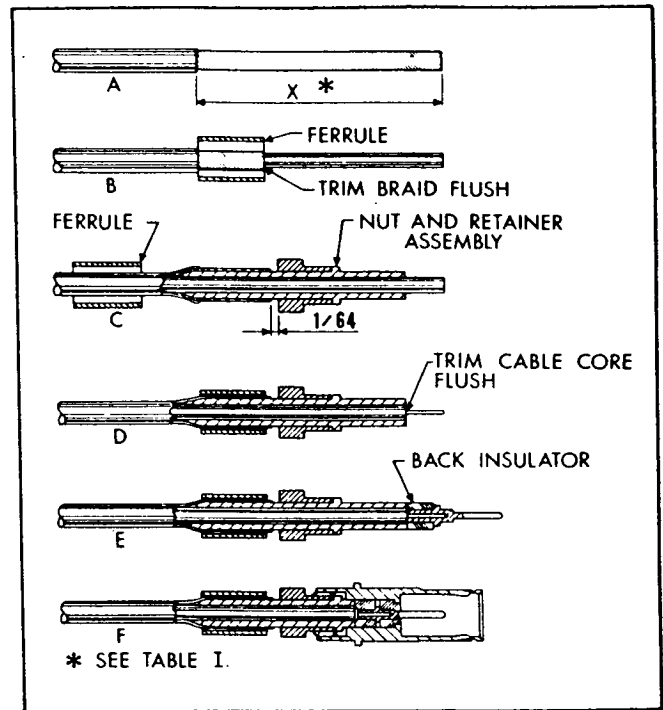

Figure 2-2. Contact Assembly Steps
a. Remove length ("X" dimension) of cable outer sheath from end of cable (A, figure 2-2 and Table 1). Hot wire stripping is recommended to avoid cutting or nicking the braid strands.
b. Slide ferrule over outer conductor (braid) flush with edge of outer sheath (B, Figure 2-2).
d. Slide ferrule over outer sheath (C, Figure 2-2).
f. Slide ferrule over outer conductor (braid) and crimp braid between ferrule and retainer with appropriate crimping tool (D, Figure 2-2, and Table 1). Make certain nut turns freely after crimping.
h. Install back insulator over back end of inner contact (E, Figure 2-2).
k. Slide front insulator over inner contact, large diameter first (F, Figure 2-2).